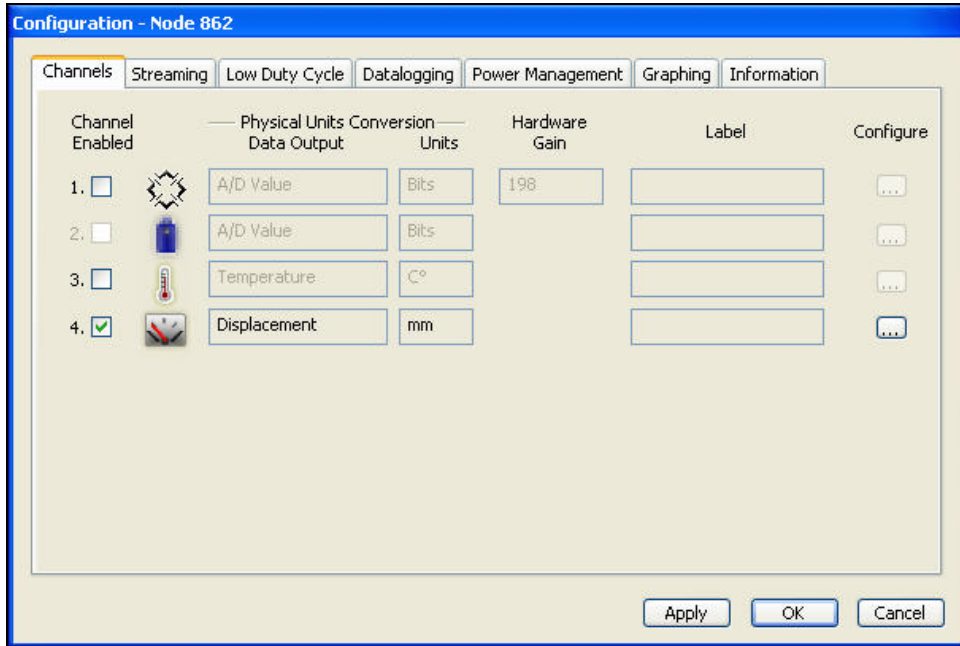

Figure 8
- Click **Configure**. The **Configuration** window will appear. See Figure 8.
displacement output. The channel plot will continue along the X-axis until 5000 sweeps (~6 seconds) has elapsed. **See Figure 8.** This indicates that the node is successfully streaming its sensor data.